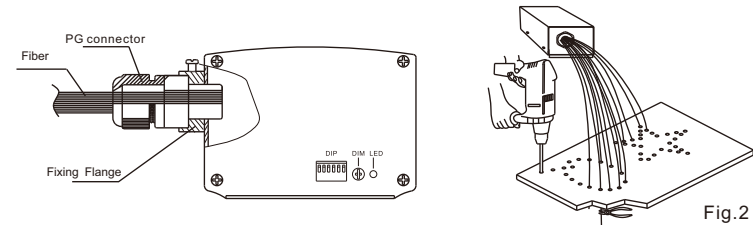

Fig.2
3. Installation of the fiber optic (Fig.2)